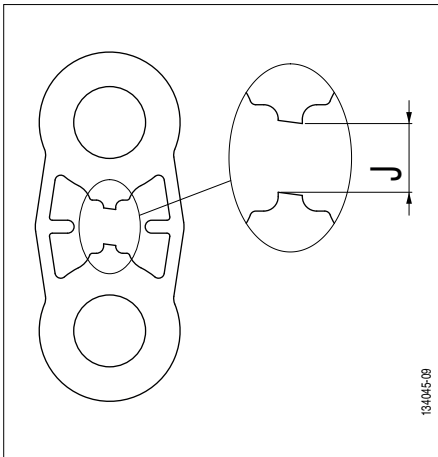

Fig. 7
- 2) Check that the TA test plate is correctly secured (fig. 2, page 9, and fig. 7).
DANGER: The maximum clearance 'J' (fig. 7, clearance J) must not exceed 15 mm.
- 2) On shearing of the 'S' control section of the TA test plate (fig. 7), the operator must immediately stop his action on the loading device. Failure to do so may result in total shearing of the plate.
8. Continue loading of the TA test plate after the 'S' control section (see 5.2, fig. 7) has sheared.